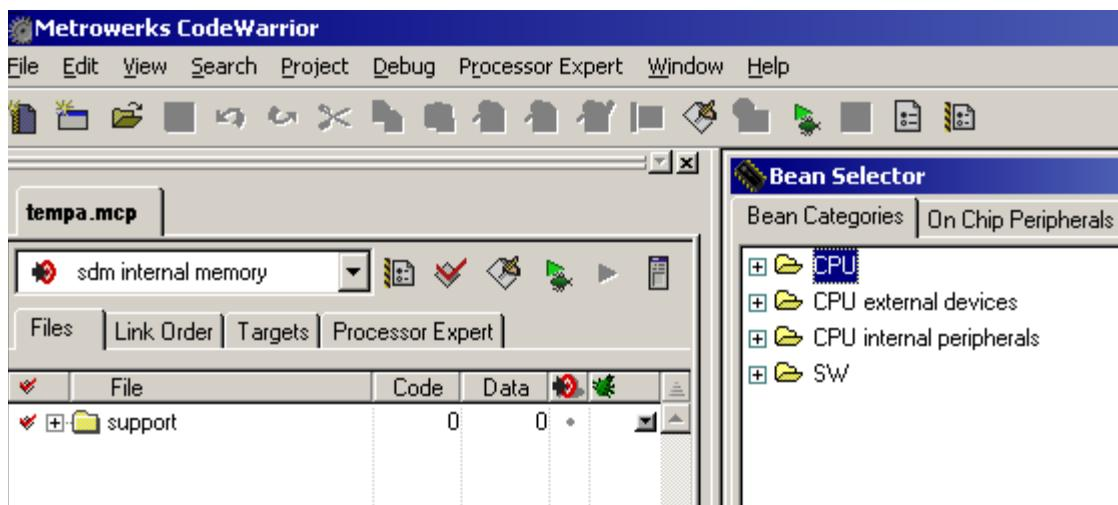

Figure 3-1. After Step One
In this section, Figures 3-1 through 3-8 correspond to the end position after following the first eight steps. The text above each figure is a more detailed description of the corresponding step.
- See **Figure 3-1**